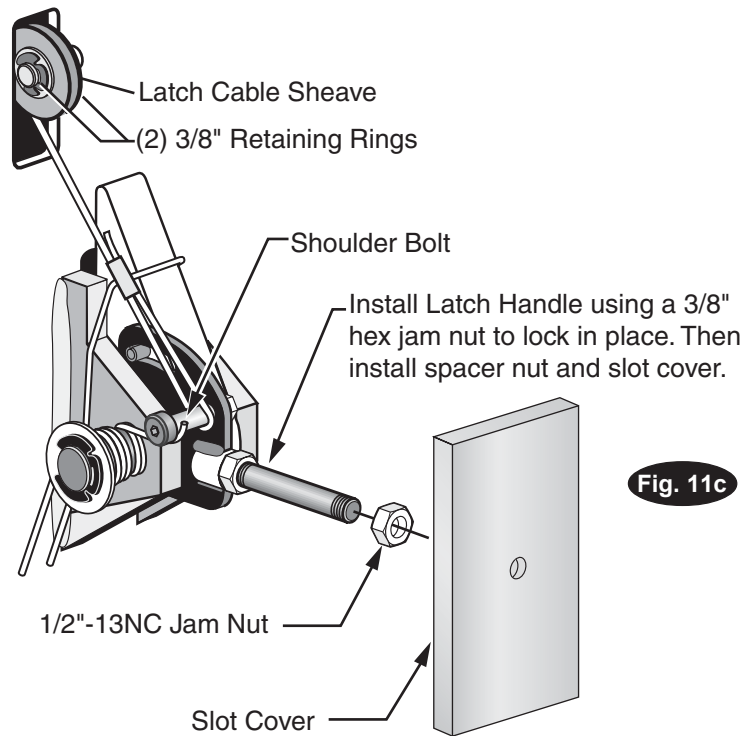

Fig. 11c
- A) Install latch cable sheave and retaining rings in upper slot of power unit column as shown, Fig. 11c.
- B) Slip loop end of cable over end of shoulder screw on right side latch control plate, Fig. 11c.
- C) Feed the other end of the cable through the latch cable sheave slot making sure that the cable is running under the bottom side of the latch cable sheave and inside the right column, Fig. 11c.
- J) At this point you **MUST** install the latch handle, jam nut, and right column latch cover Fig. 11c & Fig. 14. Install latch handle ball, Fig. 14.